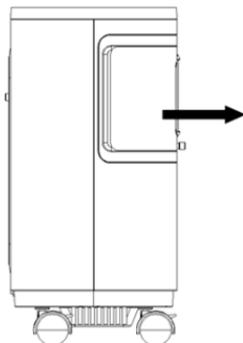

Figure 5
- Pull out the humidification bottle gently along the direction shown in the figure,pull out the rubber plug at the top and add cold the purified water of exceeding the maximum water level, (Figure 5)